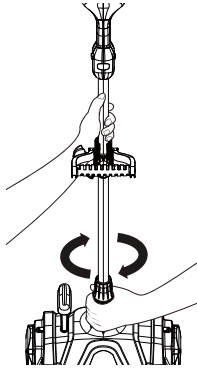

Fig. 2
2. Rotate the threaded sleeve clockwise to fasten it securely.(See Fig. 2)